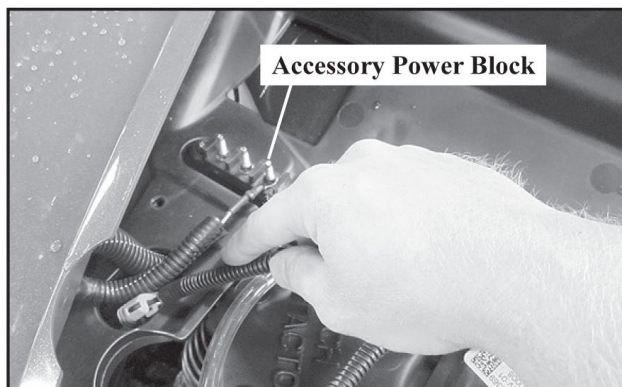

Figure 5
- e. Attach the red power and black ground leads of the P/N 2412369 control harness (#3) to the corresponding leads on the accessory block at this time. The accessory block is located under the hood on the RH side as shown in *figure 5*.